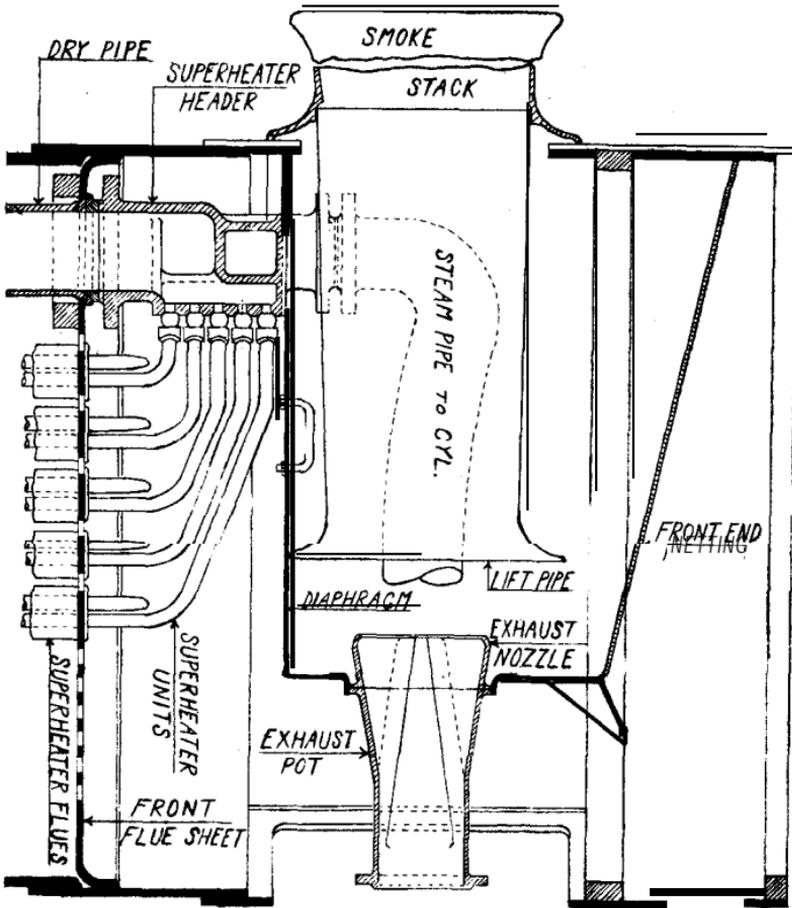

FIG.43- SMOKE BOX ARRANGEMENT - K4S
**Smoke Box:**—The smoke box is located at the front end of the boiler and contains the following appliances (Fig. 43, page 66):
**Superheated Steam:**—Superheated steam is steam heated to a higher temperature than the water in the boiler by passing through an appliance known as a superheater. After leaving the dry pipe, the steam enters the superheater header on one side of a partition wall in the header, then passes through the superheater units (Fig. 43, page 66), which are a series of pipes located inside the large boiler flues, to the other side of the superheater partition, and